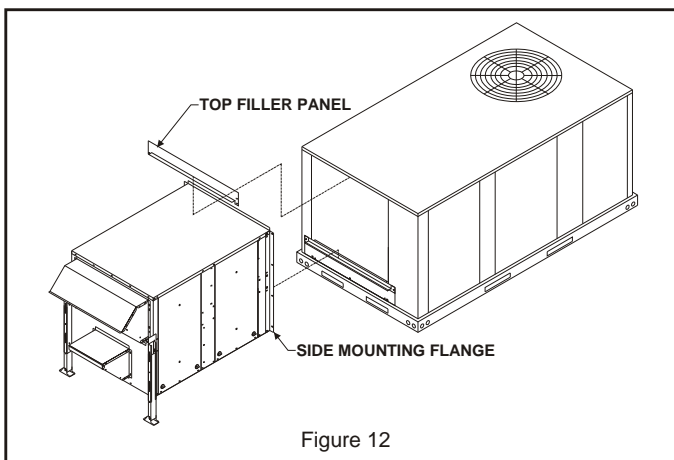

Figure 12
- Insert top filler panel under the rooftop unit top panel with 1" flange pointing out away from unit and on top of ERS top panel to provide a rain seal. **See Figure 12.**
- Use provided 10-16 x 1/2" self-tapping screws to secure the of the ERS to the rooftop unit. **See Figure 12.**